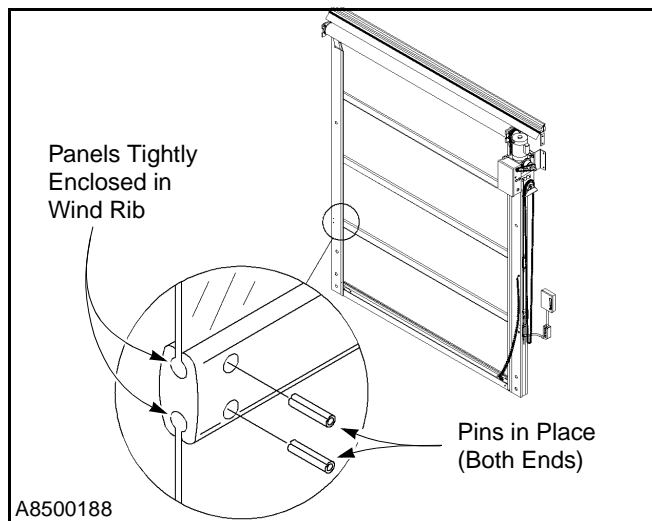

Figure 59
2. Check all panels to ensure they are tightly enclosed in the wind ribs and pins are in place in wind ribs. (See Figure 59.)